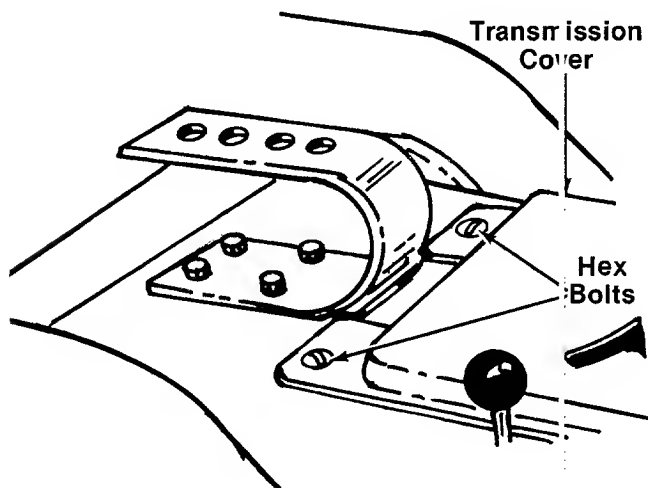

FIGURE 5.
- ← 2. Remove the two hex bolts which secure the transmission cover. See figure 5.